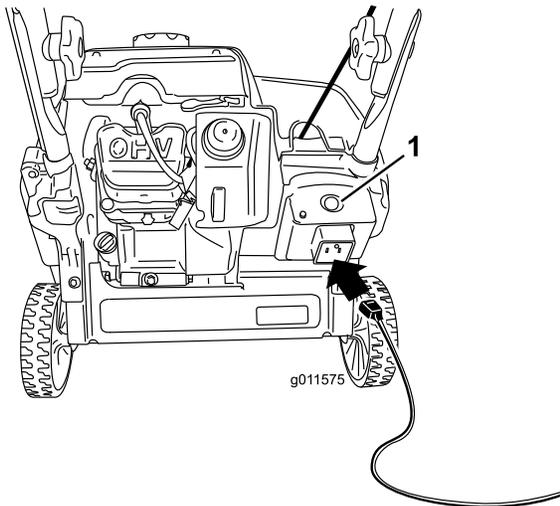
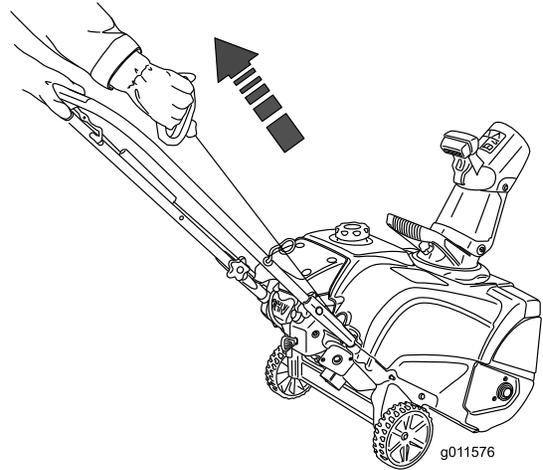

Figure 18
Figure 19
4. Connect an extension cord to a power source and the machine, and push the electric-start button (Figure 18), or pull the recoil start handle (Figure 19).